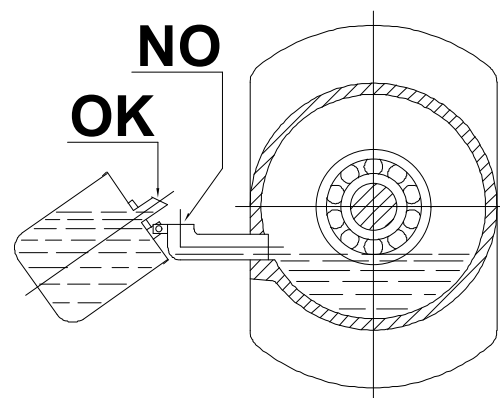

Fig. 18
- fill the oil-filler pouring oil directly into the oil-cruet and NOT into the elbow (see fig. 18)
The following fillings should be done pouring oil directly into the cruet and NOT into the elbow of the oil-filler or bearing frame plug (see fig. 18).